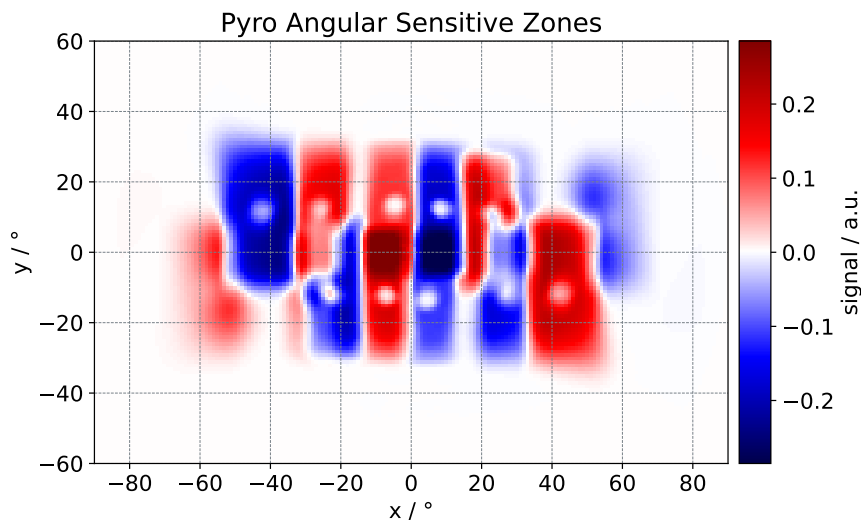

Figure 4: The angular sensitive zones of the DigiPyro™.
The sensitive zones for the DigiPyro™ can be seen in Figure 4 in an angular plot. It spans in horizontal-direction (X) 120° and in vertical-direction (Y) of 60°. There are multiple zones in both X and Y-direction for movement detection. Pyroelectric detectors require a movement between two zones with opposite sign to generate signal. A movement between a dead zone and a zone with either signal is also creating a measurable signal.